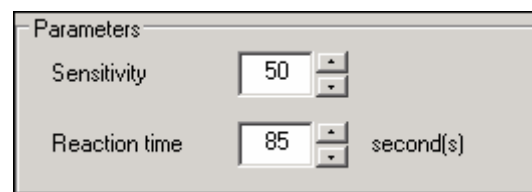

Fig. 78 "Parameters" group field in the "SISTORE MX sabotage detection" dialog
1. Enter a value in the **Sensitivity** text field (see Fig. 78).